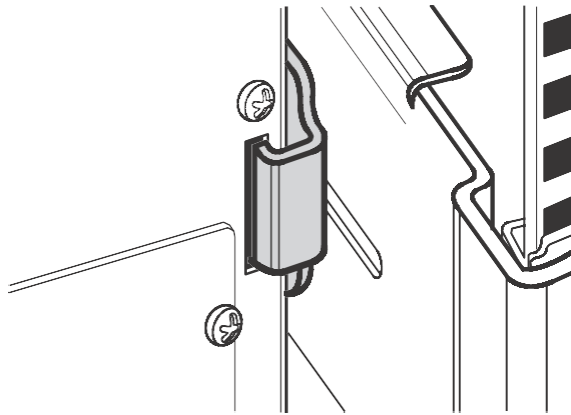

Figure 53. Inserting the Rear Hold-Down Bracket
15. Insert the two rear hold-down brackets on the rails into the slots on the rear of the cabinet (see Figure 53).